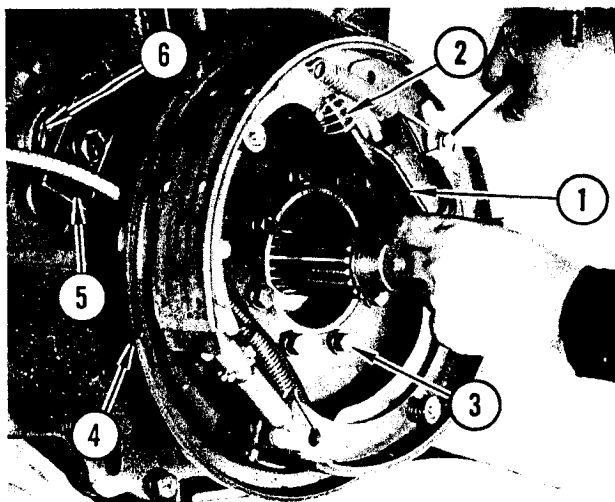

FIGURE 86. BRAKE REMOVAL
Refer to Figure 86. Use a screwdriver to expand brake shoes and remove strut (1) and strut spring (2).